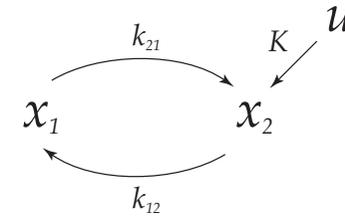

Figure 8.16a. Protein in two possible conformations.
- 8.16 Figure 8.16a shows a protein that changes between the conformations x_1 and x_2 . The kinetic parameters k_{ij} determine the rate of the conformational changes. The input signal, u , together with the constant, K , represent introduction of x_2 to the system. We assume that we can measure x_2 , i.e. $y = x_2$. All reaction rates are assumed to be given by expressions proportional to the concentration of the states they emanate from. That is, for a state i the differential equation will be $\dot{x}_i = \sum_p k_{ip} x_p - \sum_q k_{qi} x_i$, where p is the number of incoming and q the number of outgoing flows from the state i . This corresponds to mass action kinetics for a regular biochemical reaction network.